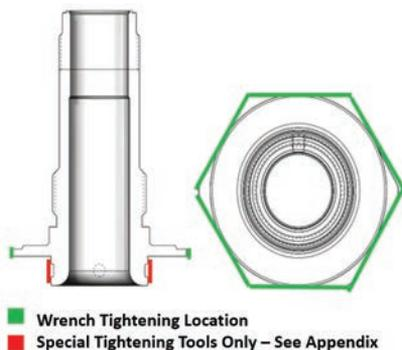

Figure 48: IS Nozzle Tightening Locations
- Tighten with wrench/socket to a maximum torque not to exceed that value listed in Table 10 at the wrench tightening location in Figure 48.
- Tighten to a maximum torque not to exceed that value listed in Table 10 with the use of the 2900 IS Torqueing Tool Insert per the drawing in Section XXIII. at the Special Tightening Tools Only location in Figure 48.